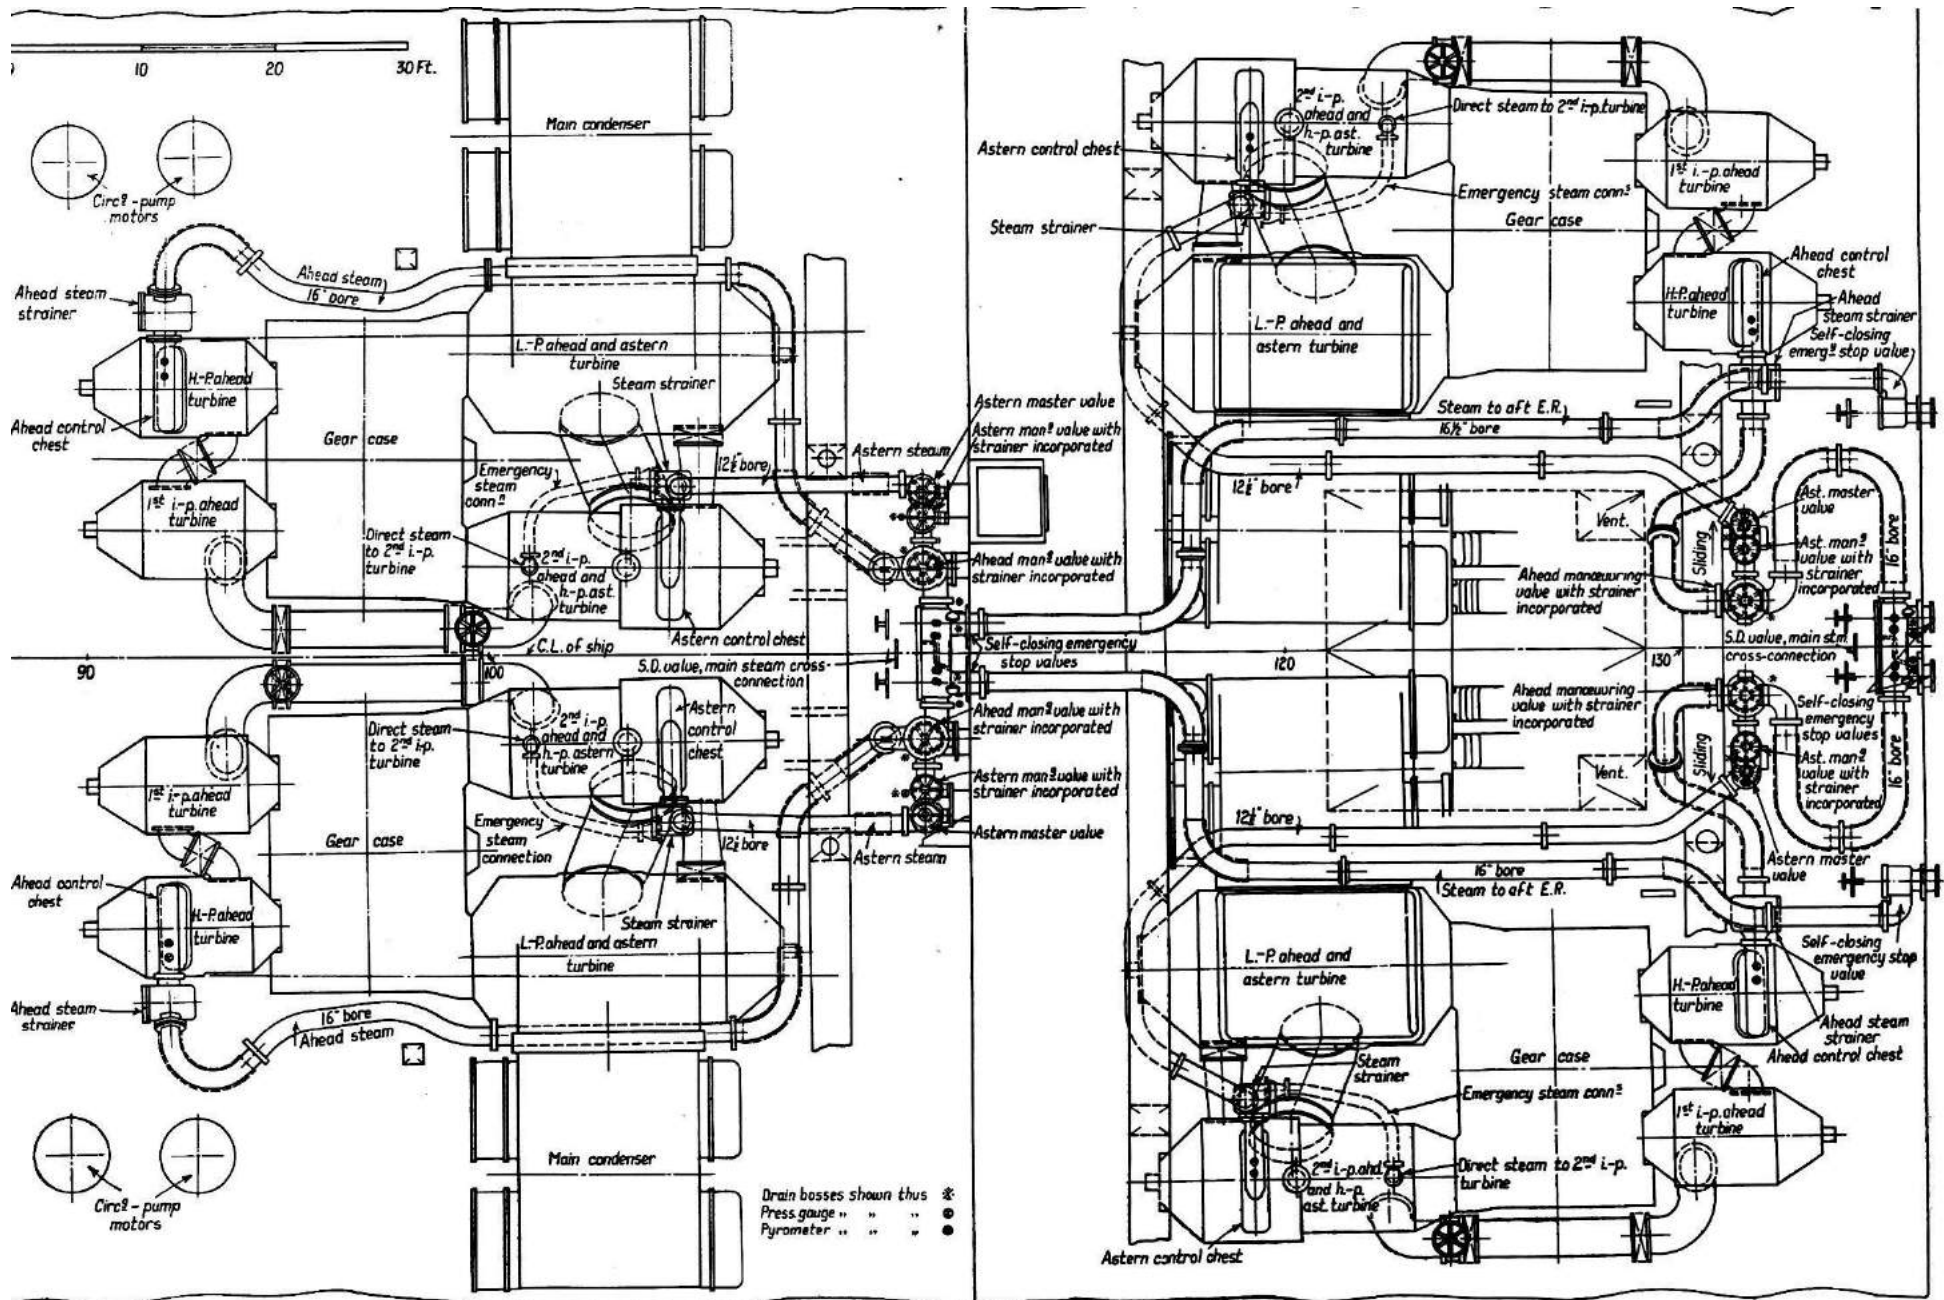

Figure 1 Plan of steam piping in engine rooms
1.5 Main steam piping (Figure 1)